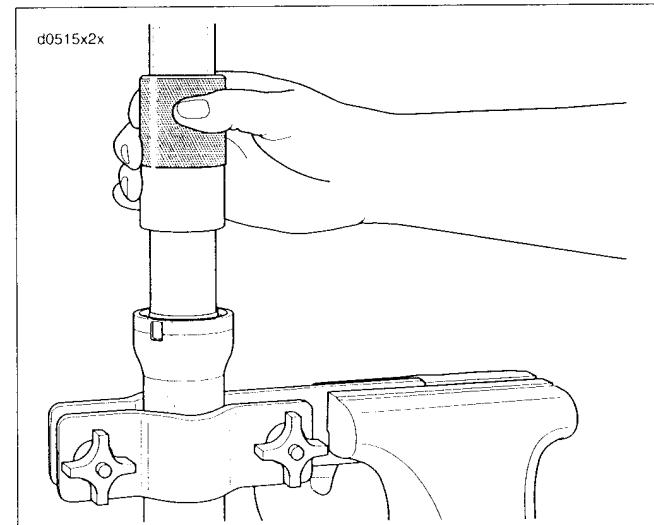

Figure 2-94. Fork Seal Installer
6. See Figure 2-94. Drive the guide bushing with the spacer seal into the slider.